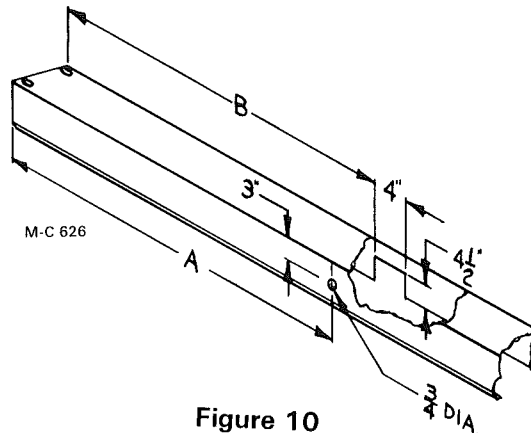

Figure 10
17. Cut out the back of the guard to fit over the center bearing mount and drill a  $\frac{3}{4}$ " hole in the front of the guard for access to the bearing grease fitting, see Figure 10. Install the guard.